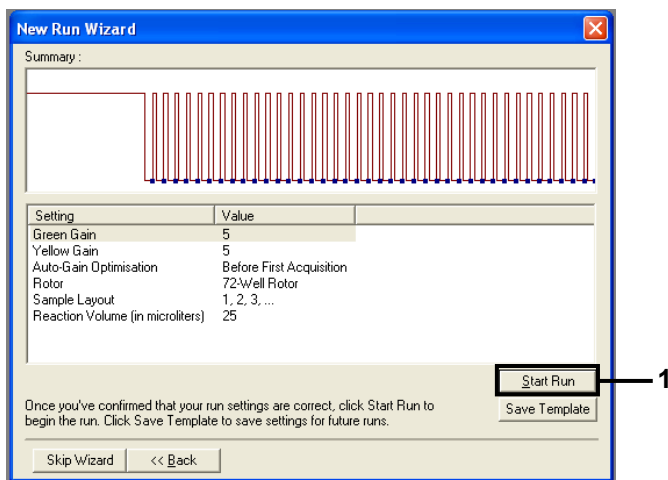

Figure 23. The "New Run Wizard" dialog box and summary screen. (1 = "Start Run")
16. Check the summary and click **Start Run** to save the run file and start the run (Figure 23).